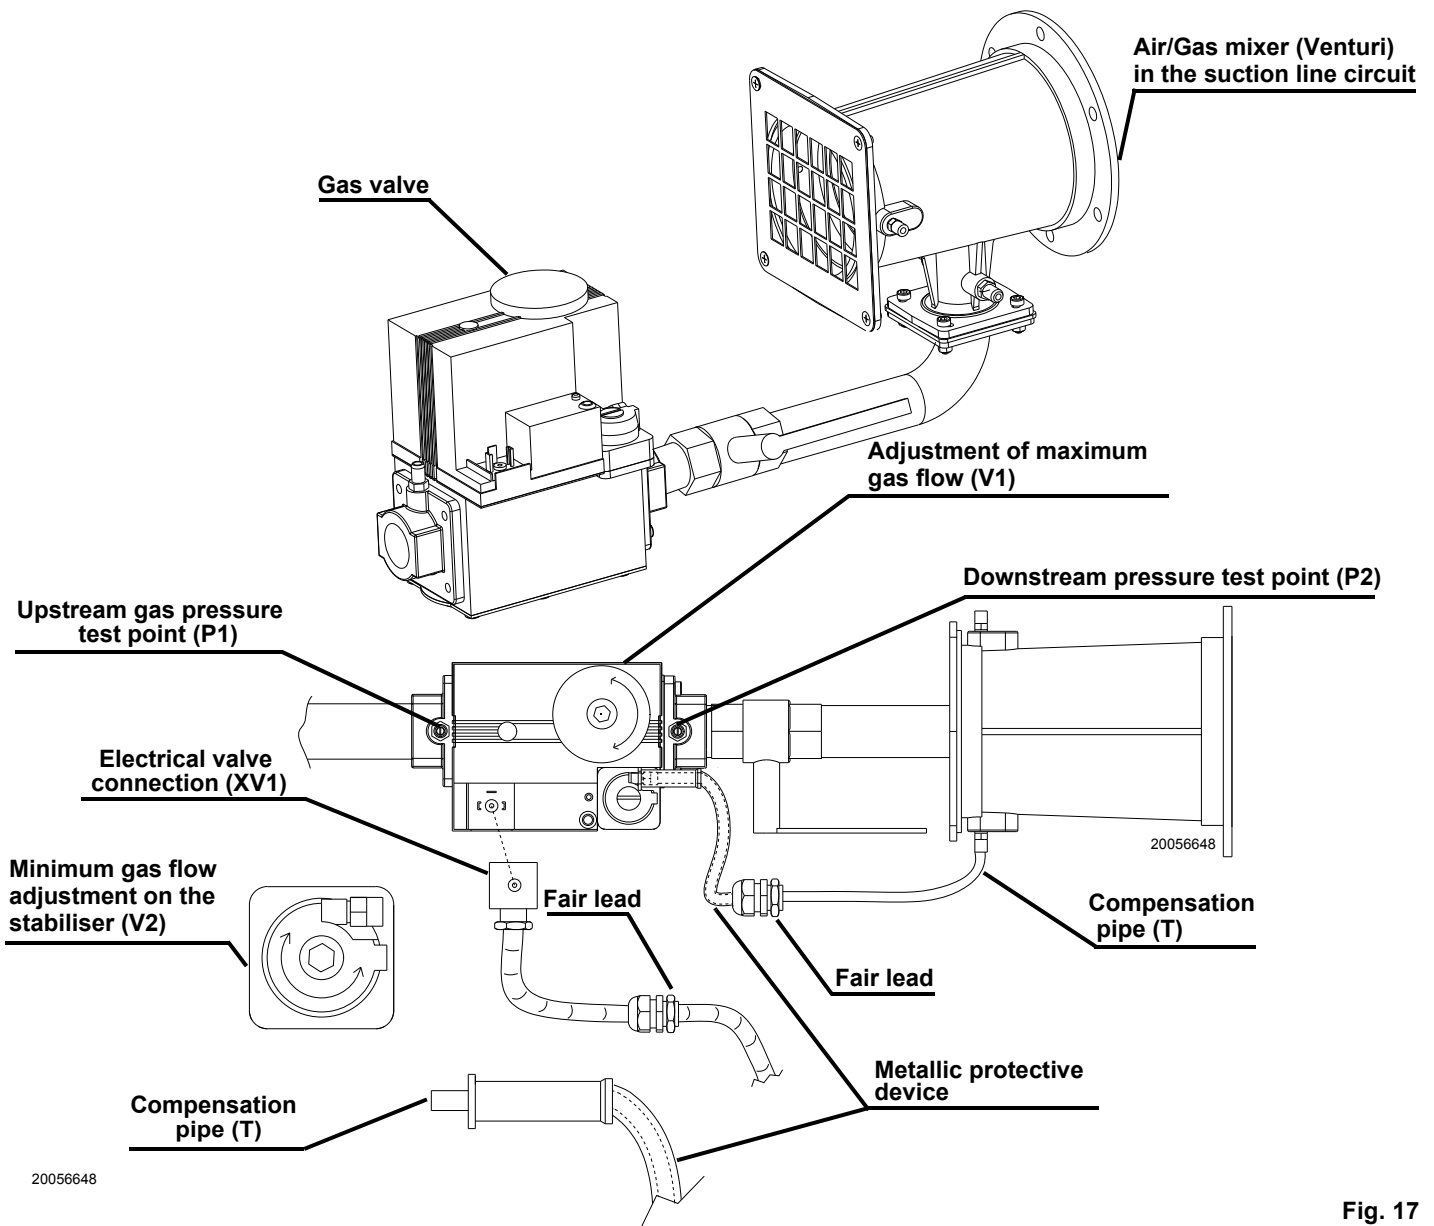

Fig. 17
- bleed the air from the gas pipes using the screw on the socket (Fig. 17, page 23).